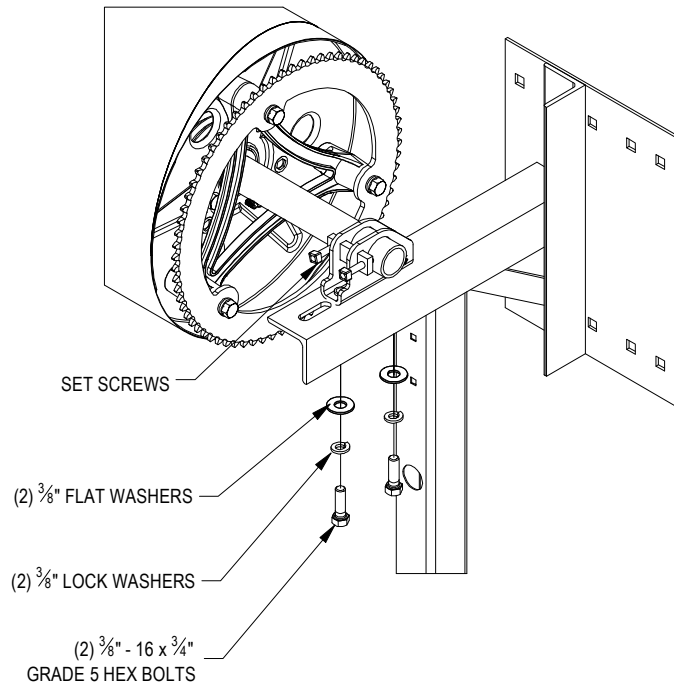

**FIGURE 15:
- ▶ Attach Stamped Axle Support to door bracket using 3/8" - 16 x 3/4" grade 5 hex bolt, 3/8" lock washer and 3/8" flat washer. **See Figure 15.**